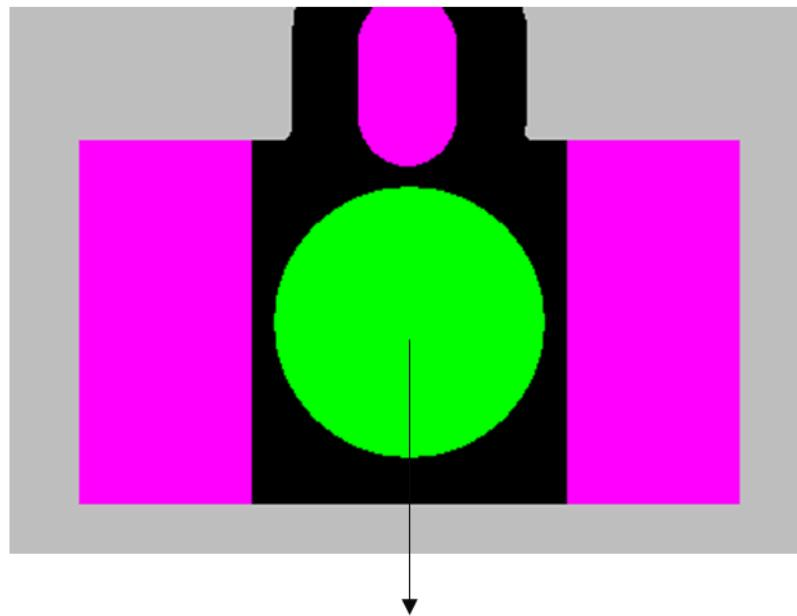

Figure 26. Non-plated through hole under the RF connector
- We recommend to place a non-plated through hole under the RF connector to minimize the insertion loss as shown in Figure 26.